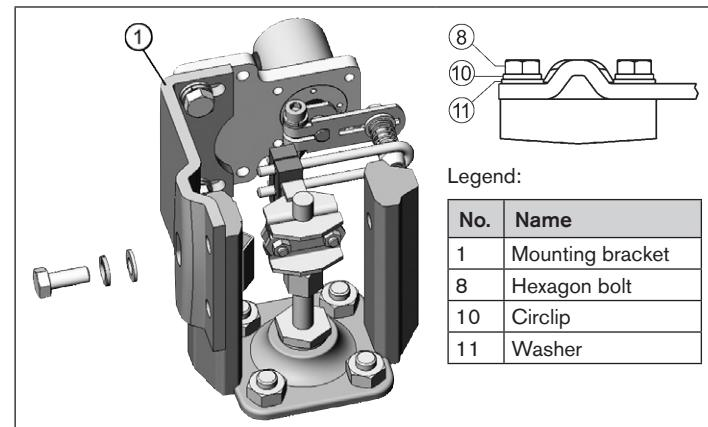

Fig. 29: Fit mounting bracket to cast frame
→ Attach mounting bracket ① to cast frame with one or several hexagon bolts ⑧, circlips ⑩ and washers ⑪ (refer to "Fig. 29").